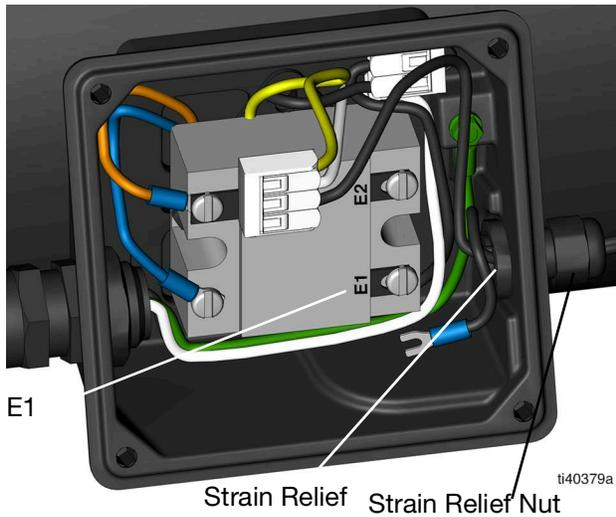

FIG. 32
8. Twist the strain relief nut on using a wrench until tightened (see FIG. 32).
9. Crimp the fork connector to one of the pressure cable wires (see FIG. 32).
11. Reinsert the second wire back into the connector containing the yellow and white cables (FIG. 32).